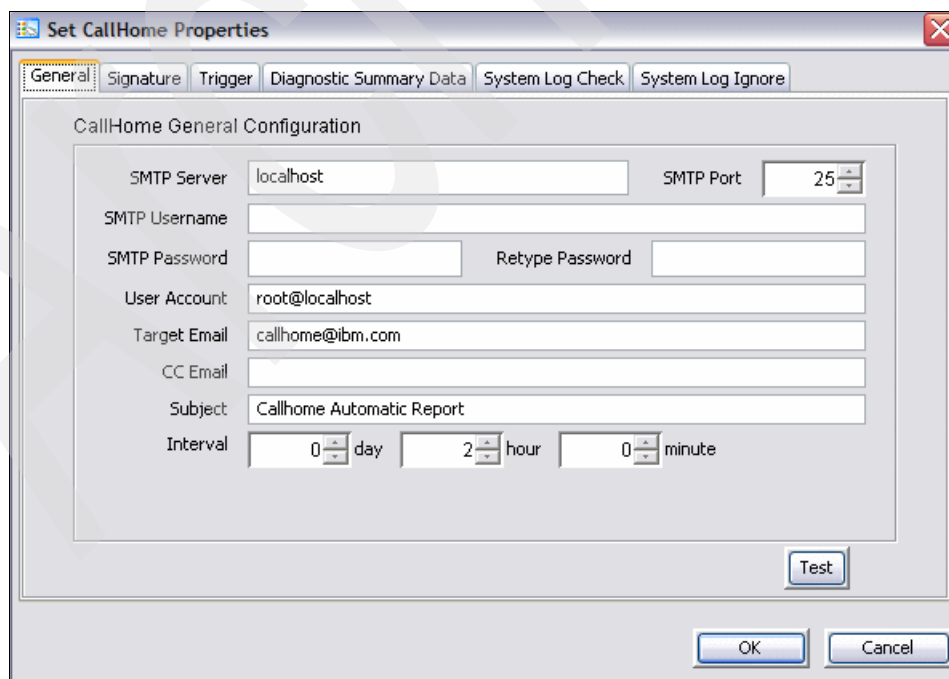

Figure 7-21 CallHome setup: General
1. Right-click your IBM Virtualization Engine TS7510 host name and select **CallHome** from the pull-down options list. You are presented with a window similar to the one shown in Figure 7-21.